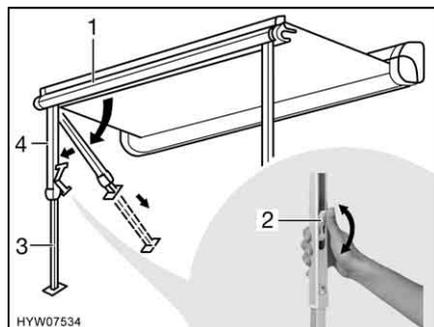

Fig. 9 Position support legs
- Release the support legs (Fig. 9,4) out of the front bar (Fig. 9,1) applying slight outward pressure.
- Pull out the lower part of the support legs (Fig. 9,3) until reaching the desired length.
- Close the lock on the support legs. In order to do this, press the catch lever (Fig. 9,2) upward.